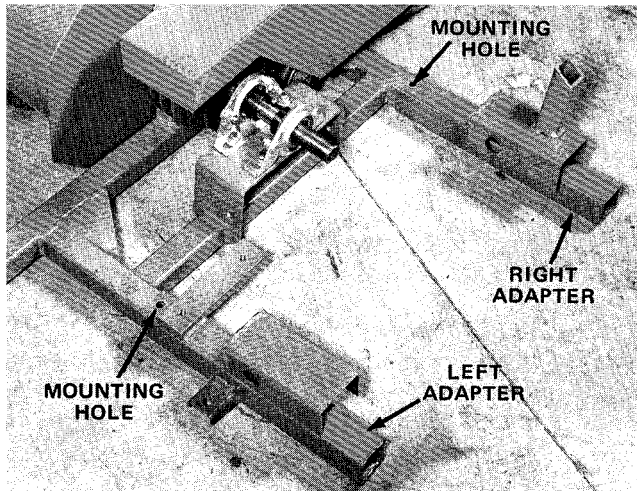

Figure 1
1. Slide right and left adapters onto snowthrower, align holes and secure with capscrew and locknut (Fig. 1).